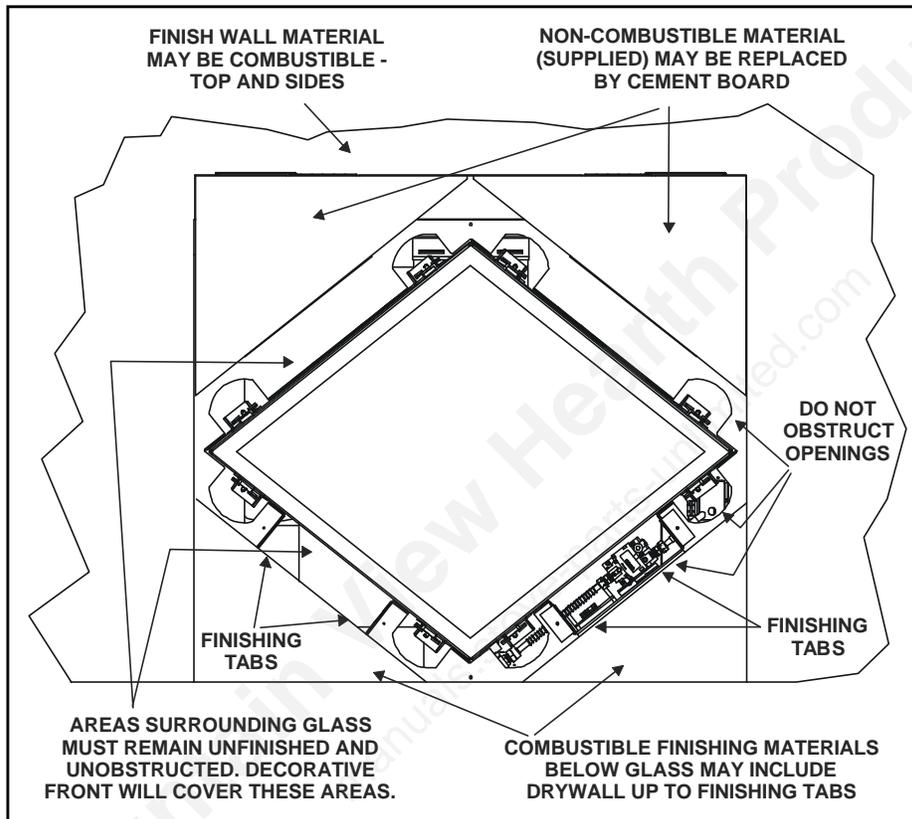

Figure 29. Sealant Material
2. Combustible finishing materials (including drywall) may cover areas BELOW the glass up to finishing tabs (see Figure 29).